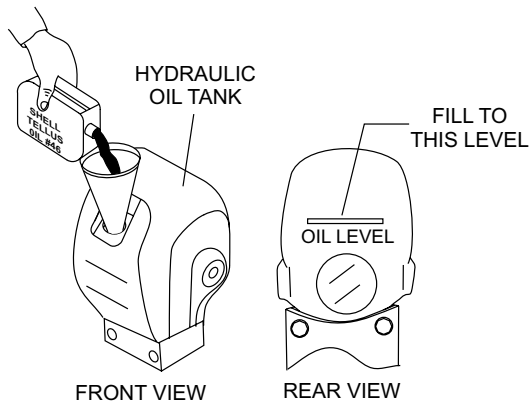

Figure 36. Adding Hydraulic Oil
- Using a funnel, add Shell Tellus Oil #32 or equivalent to the hydraulic oil tank through the oil filler port (Figure 36). Oil tank capacity is 18.7 fl. oz (550 cc).